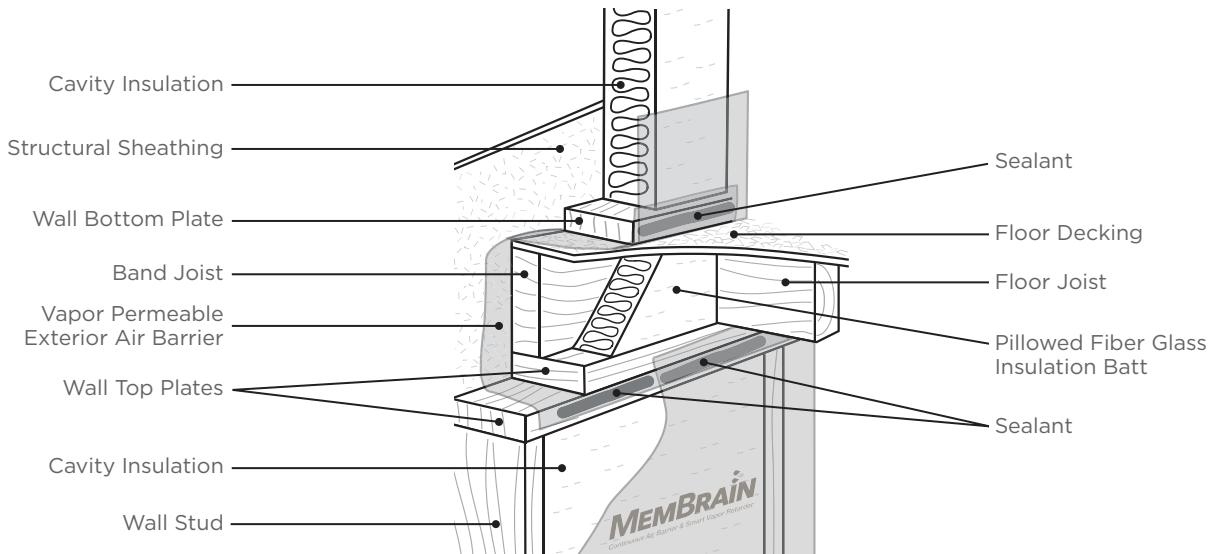

Figure 17: Detail B - MemBrain Air Barrier System interior floor intersection details.
4. Apply recommended sealant over ceiling-overlapped film material at the top plate, to the frame around window and door rough openings and to the bottom plate (See MemBrain Air Barrier System Details on page 4 and Figure 17 on page 10). Working toward the opposite corner, pull the sheet tight, and staple the offset edge to the top sill plate through the sealant bead. Staples should be at least 12 to 24 inches apart.